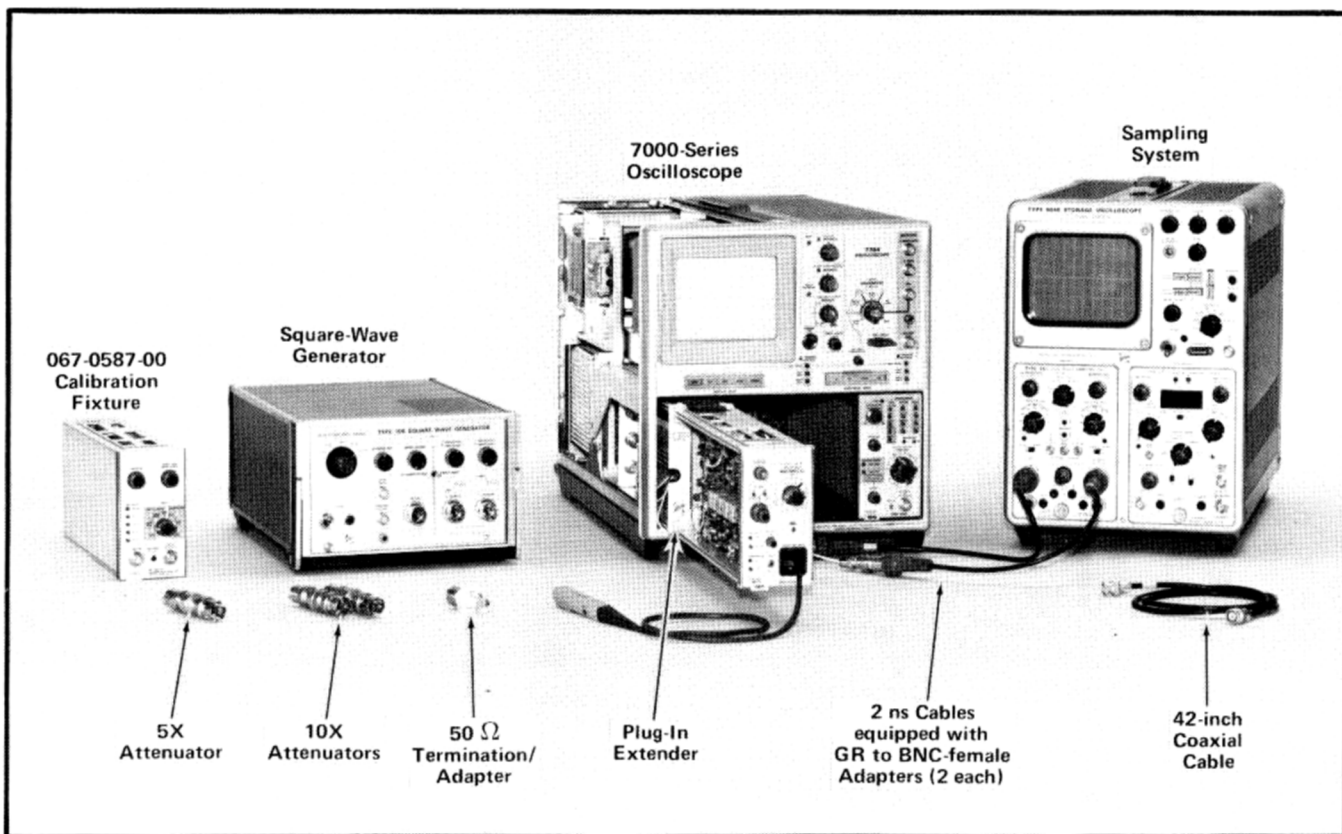

Fig. 5-10. Equipment for steps 12 through 20.
g. Insert the AC Coupler (item 13) in the signal path between the Probe tip and the Stored Probe Input Adapter.
a. Control settings are given in Table 5-2. The equipment required for steps 12 through 20 appears in Fig. 5-10.